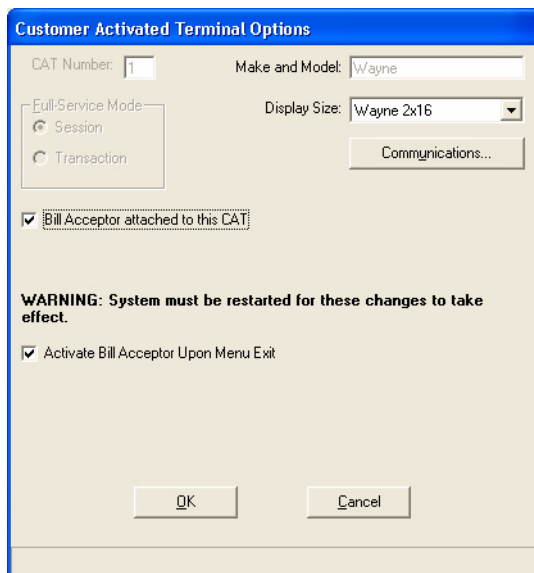

Figure 7-52 CAT Options Window
2. Select **Add** or **Modify** to bring up the Customer Activated Terminal Options window which will allow you to program an additional CAT or modify an existing CAT. See Figure 7-52 below.